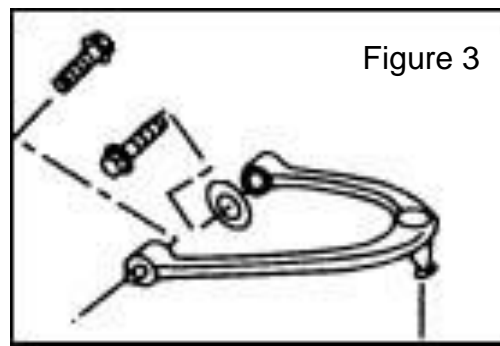

Figure 3
10. Remove (2) bolts that attach OEM FUCA to chassis (Figure 3).